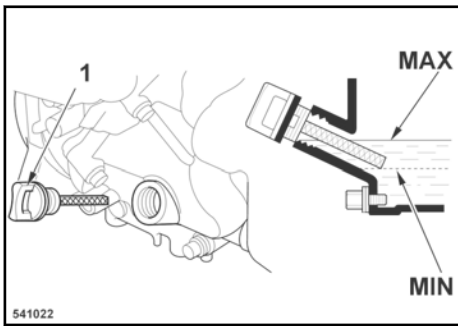

Fig. 36
Clean the area around the oil dipstick (1) ↪ Fig. 36.